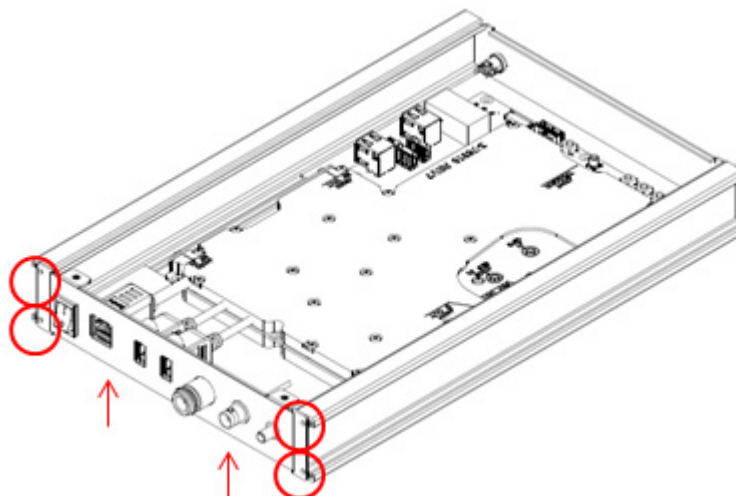

Figure 3-4. 6 Screws Securing Front Panel to Side Panels and SPA Mounting Plate
3. Referring to Figure 3-4, remove the 4 screws securing the side panels to the front panel located where the circles are shown, and remove the 2 screws securing the front panel to the SPA mounting plate from the bottom where the arrows are shown. Now the front panel can be removed.